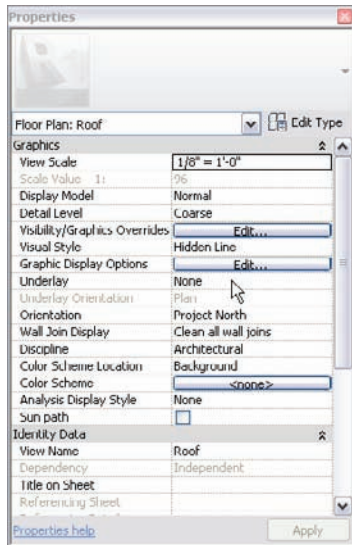

FIGURE 7.1 Changing the view's Underlay to None
3. In the view Properties, find the Underlay row and select None from the menu, as shown in Figure 7.1.